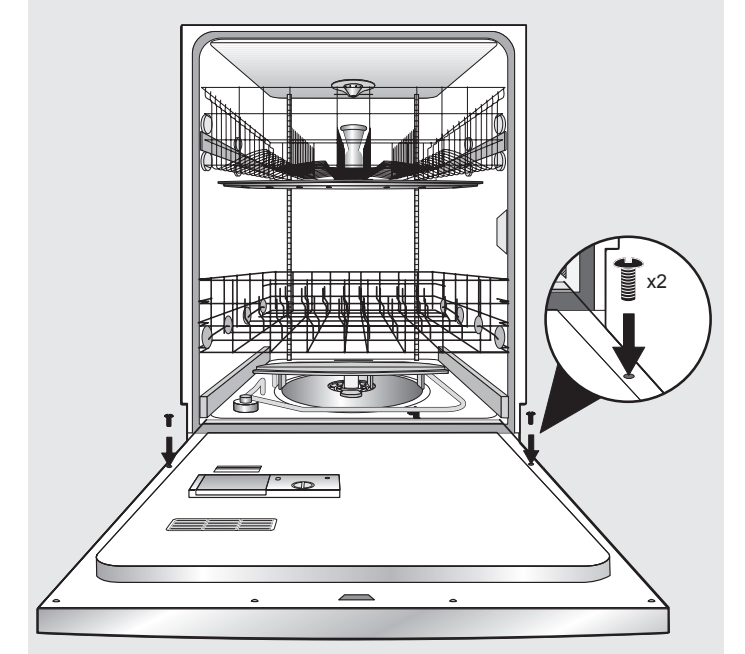

Figure 18
1. Unlatch and open door. Using a Phillips head screw driver, remove two (2) screws from inner door. Save screws to reassemble. **See Figure 18.**